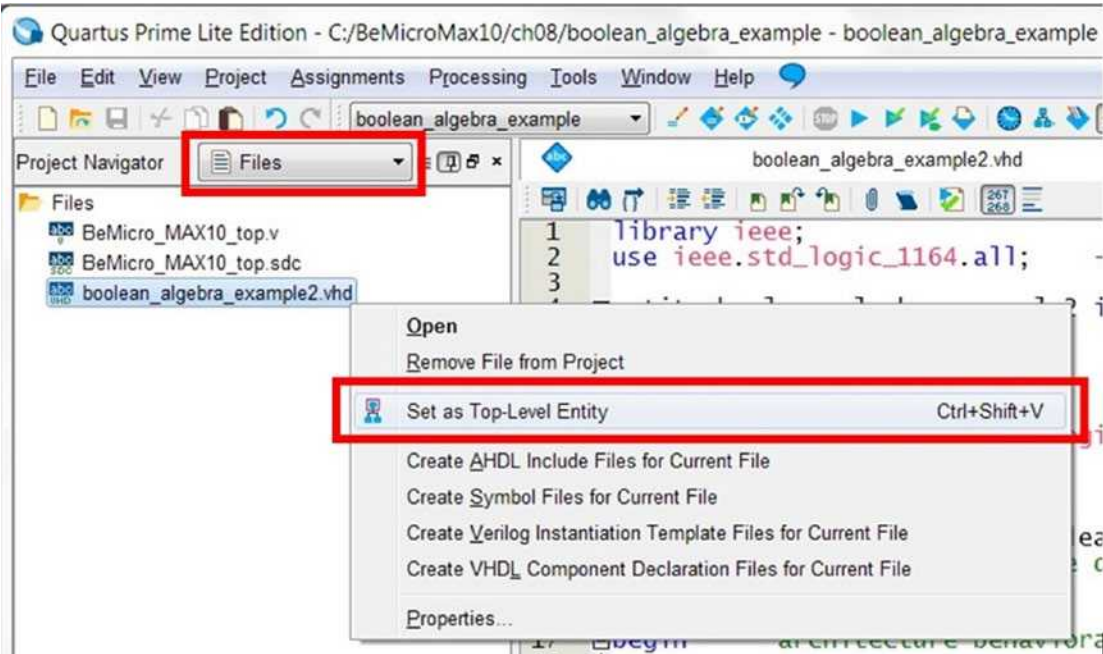

Figure 8-6. Set boolean_algebra_example2.vhd as Top-Level Entity
5. In Project Navigator, select **Files**. Right-click the file *boolean_algebra_example.vhd* and click **Set as Top-Level Entity** (Figure 8-6).